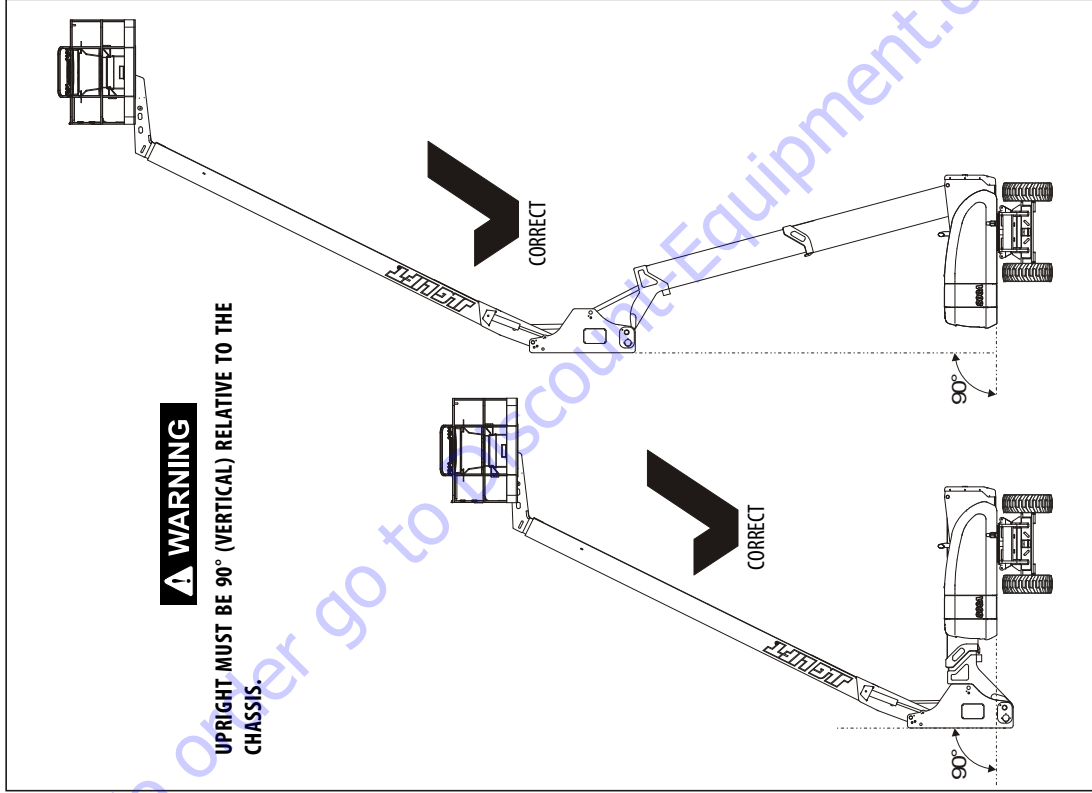
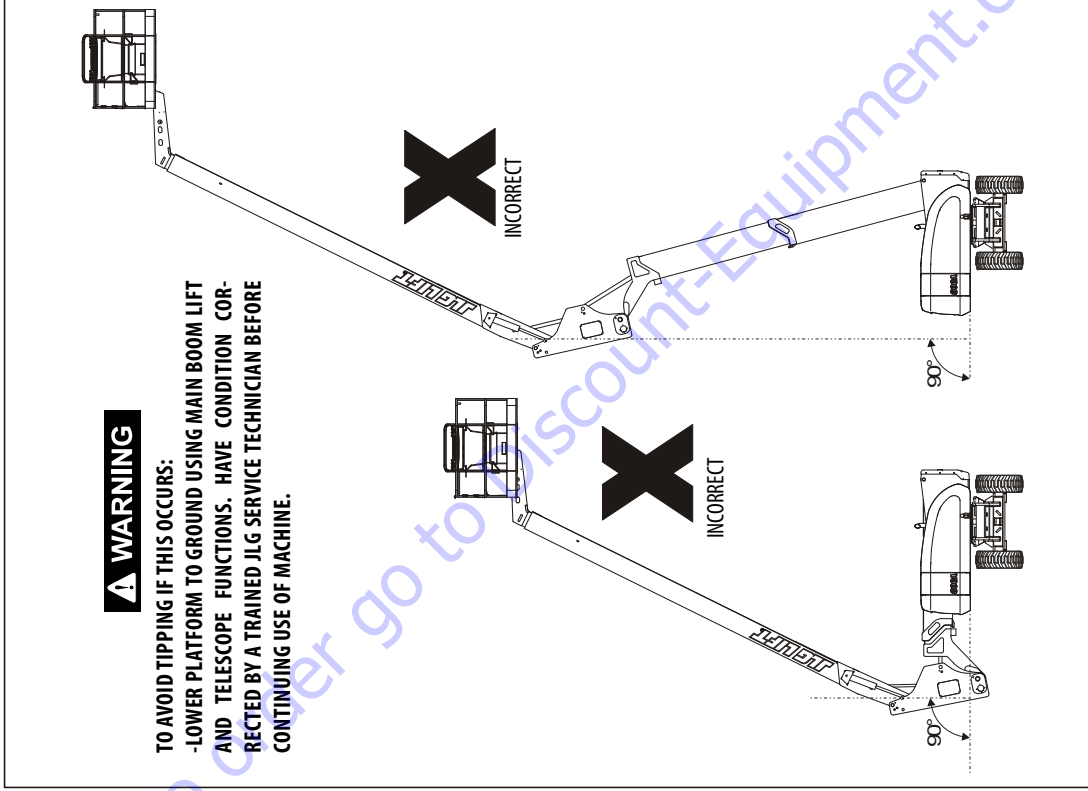

Figure 2-7. Boom Upright Positioning - Correct
Figure 2-8. Boom Upright Positioning - Incorrect
- 23.** Upright - In vertical position, relative to the chassis. Refer to Figure 2-7. and Figure 2-8. If out of alignment, do not use machine until the upright has been synchronized in accordance with Section 4.16.
- c. Raise the tower base boom to approximately 40 degrees, then lower the tower boom back to the below horizontal position. While raising and lowering the tower boom assembly, observe the position of the upright. Ensure that the upright remains vertical relative to the chassis. Refer to Figure 2-7. and Figure 2-8.